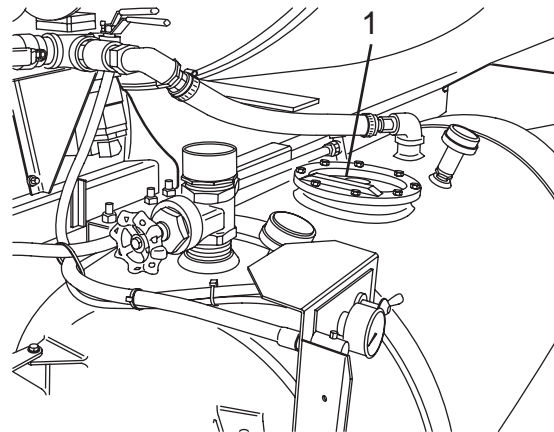

Figure 78
2. Place the water supply hose in the water tank flopper valve (Figure 78, Item 1) and fill the tank.